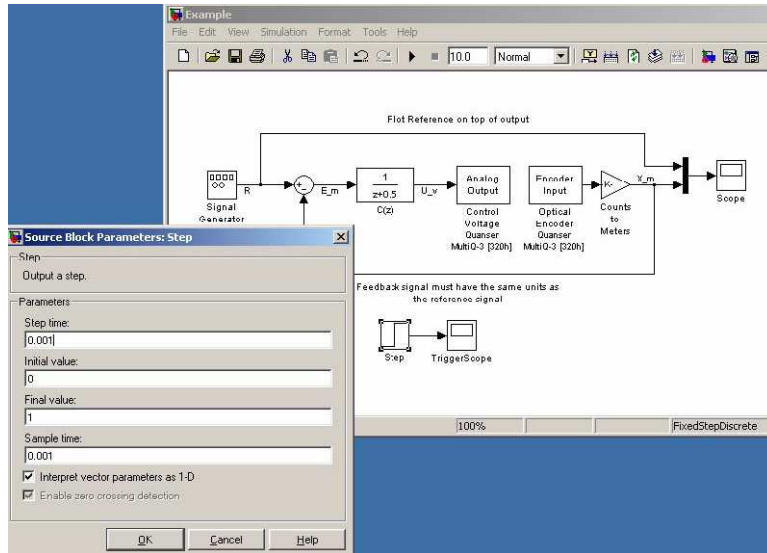

Figure 4: Step function block as a Trigger Signal
In the Real Time Windows Target, data is logged by scope blocks. Like an oscilloscope, to start the data logging procedure, a trigger is needed to initiate the process. A simple approach is to define a dedicated scope block, with one trigger signal entering it. Figure 4 shows a step function set with a step time of 0.001 seconds, which corresponds to one sample time. This set-up will save all but the very first data point. To record data, follow the procedure below.
- Set the step time of the STEP block to the time you wish to begin saving data. Set the Initial Value and Final Value to 0 and 1 respectively. See Figure 4.